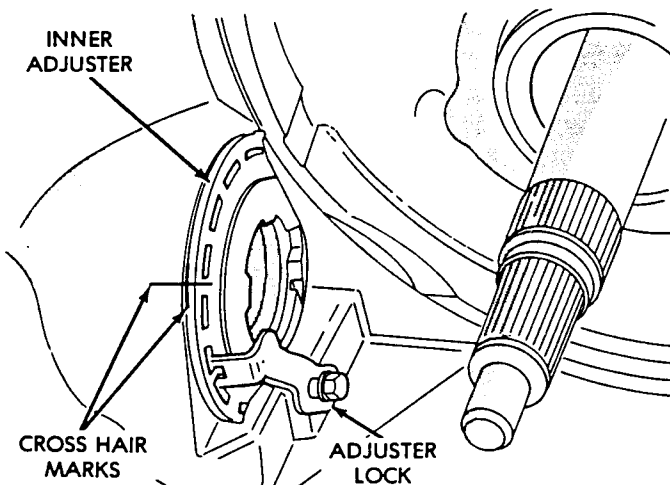

Fig. 2 Indexing Inner Adjuster
(3) Index the inner differential adjuster with a "cross hair" as shown in figure 2.